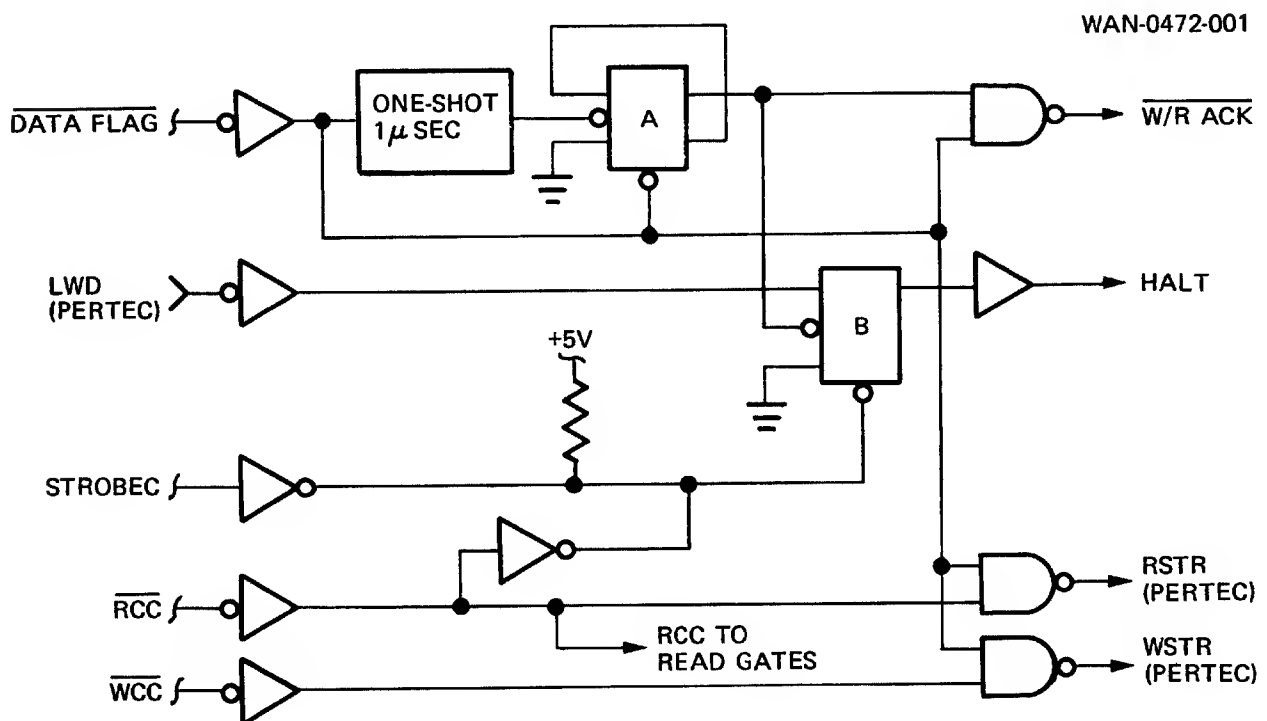

Figure 4-2. HALT and W/R ACK Command Logic
4.2.1.1.7 DATA FLAG and W/R ACK Signals. As shown in Figure 4-2, $\overline{\text{DATA FLAG}}$ from the Formatter is inverted and held one microsecond, then gated with $\overline{\text{DATA FLAG}}$ to generate the $\overline{\text{W/R ACK}}$ signal. $\overline{\text{W/R ACK}}$ internally resets the Formatter $\overline{\text{DATA FLAG}}$ signal and causes F-F A to be reset. This sequence continues for each transferred data character until Last Word (LWD) is received from the Pertec interface. A low level on the LWD line enables F-F B, which supplies the high true HALT command to the Formatter. F-F B is reset by either a command clock (STROBEC) pulse or a low true level on the RCC status line. This indicates the Formatter is in the Read mode.
4.2.1.2.1 WSTR, RSTR. A low true Read Strobe (RSTR) signal is generated by gating the Formatter Read status line (RCC) with DATA FLAG. Similarly, Write Strobe (WSTR) is generated by gating the Formatter Write status line (WCC) with DATA FLAG (ref. figure 4-2).